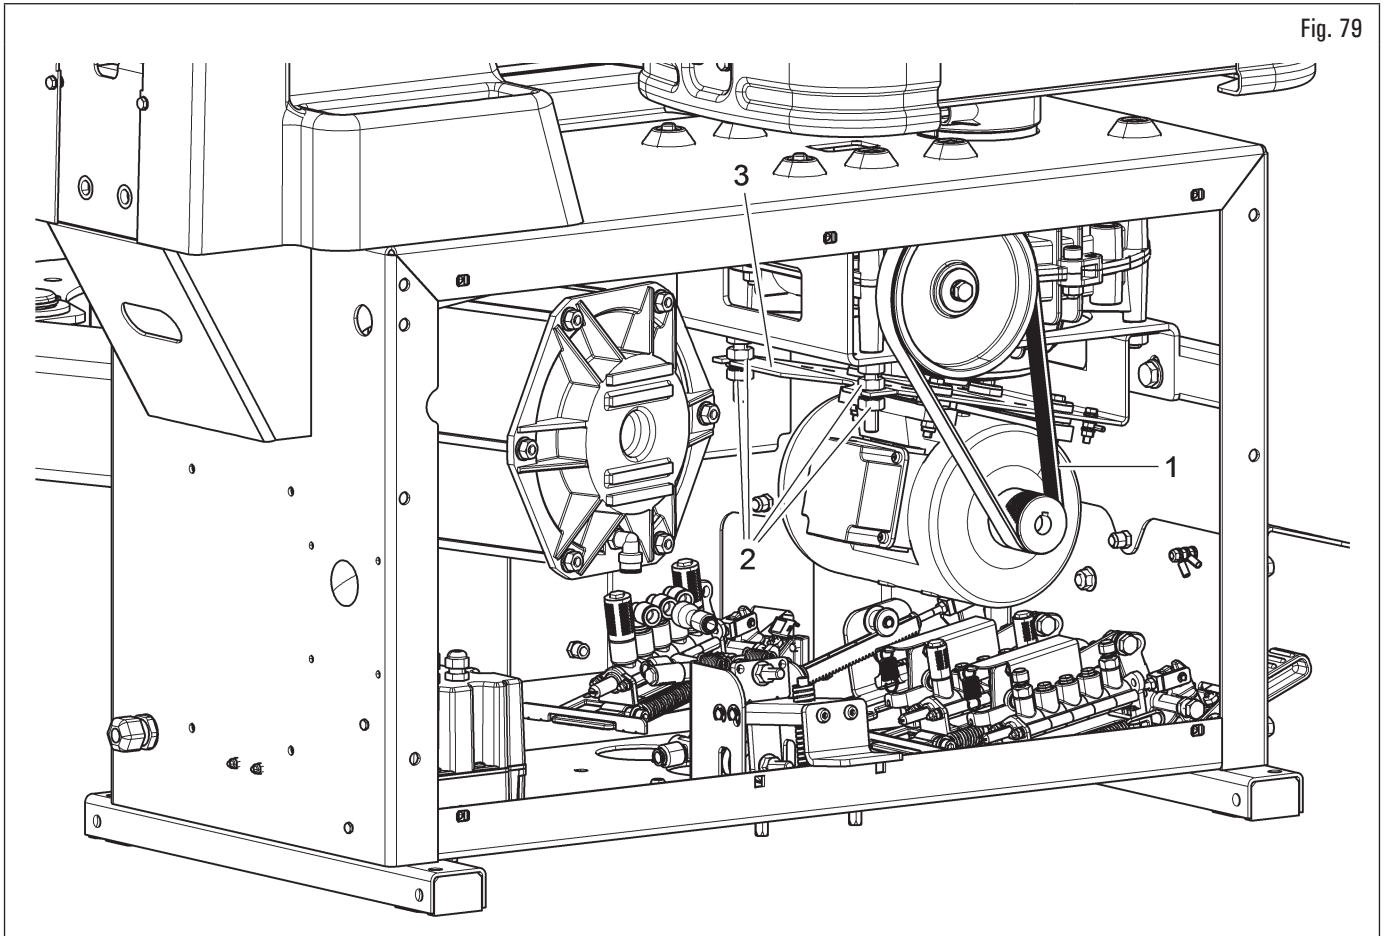

Fig. 79
- Check the transmission belt for wear or proper tensioning (Fig. 79 ref. 1):
2. tension up the belt (Fig. 79 ref. 1) turning the bolts provided (Fig. 79 ref. 2) holding the support (Fig. 79 ref. 3) of the motor;
3. if the belt (Fig. 79 ref. 1) shows signs of wear, replace it with original parts;